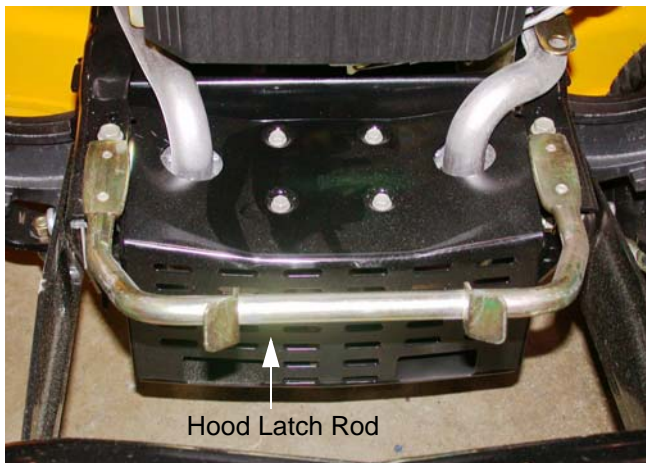

Figure 2.8
- 2.8. The hood latches to a sturdy rod that is mounted to the front of the frame. See Figure 2.8.